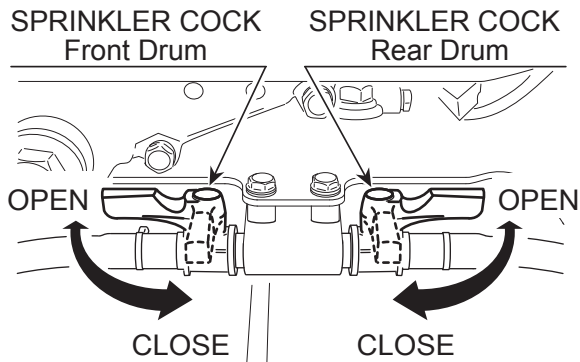

Figure 18. Water Cocks
3. Open the water cocks for the front and rear drums, to start sprinkling. (Figure 18).